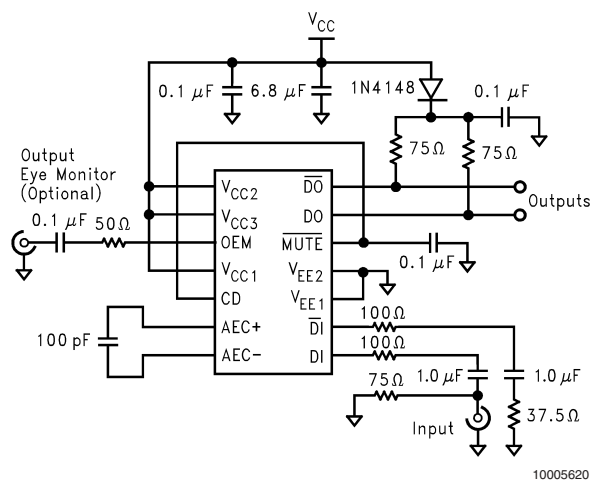

FIGURE 1. CLC014 Equalizer Application Circuit
Carrier Detect (CD) is a CMOS output that indicates the presence of equalized data from the filter. This CD output can be connected to **MUTE** to suspend changes in the data outputs DO and D0-bar, if no valid signal exists. This simple configuration prevents random output transitions due to noise. For sparse transition patterns it is recommended that a capacitor be connected to CD as shown in Figure 1.
The OEM is a high-speed, buffered output for monitoring the equalized eye pattern prior to the output comparator. Its output is designed to drive an AC-coupled 50 ohm coaxial cable with a series 50 ohm backmatch resistor. The cable should be terminated with 50 ohm at the oscilloscope. Figure 1 shows a schematic with a typical connection.
The CLC014 operates from either +5V or -5.2V single supplies. Refer to *Figure 1* when operating the part from +5V. When operating with a -5.2V supply, the V_{EE} pins should be bypassed to ground. The evaluation board and associated literature provide for operation from either supply.